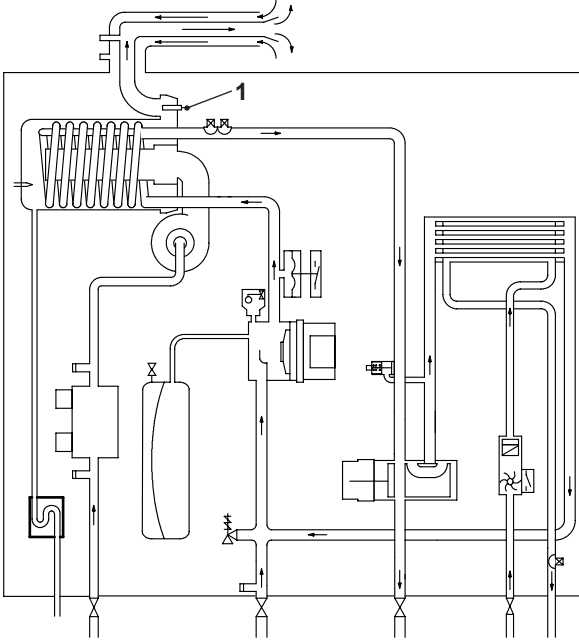
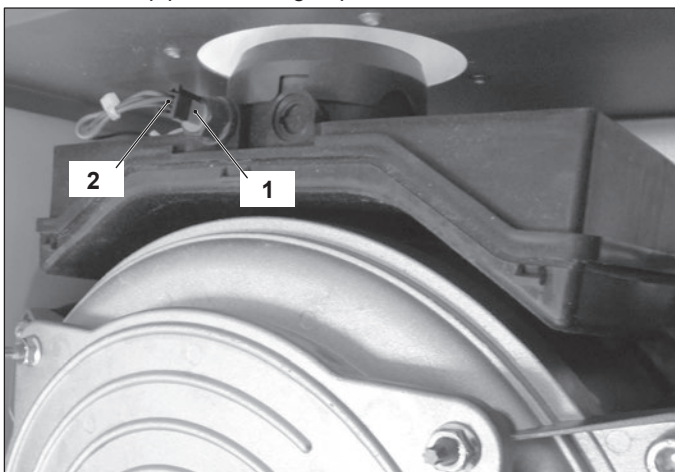

Figure 19.1
Figure 19.2
The Flue temperature probe NTC and Safety thermal fuse "1" in Figure 19.1 and Figure 19.2 senses the temperature of the combustion products that flow through the condensing heat exchanger.
A Flue temperature probe NTC and Safety thermal fuse "1" in Figure 19.1 and Figure 19.2 is also connected in series with the Flue temperature probe NTC and acts as a safety device in extreme case of incorrect operation of the Flue temperature control system.
- 2 Disconnect the connector "2" from the Flue temperature probe NTC and Safety thermal fuse by pressing the plastic hook placed on the side of the connector (Figure 19.2).
- 3 Unscrew and remove the Flue temperature probe NTC and Safety thermal fuse "1" (Figure 19.2) from the condensing heat exchanger.